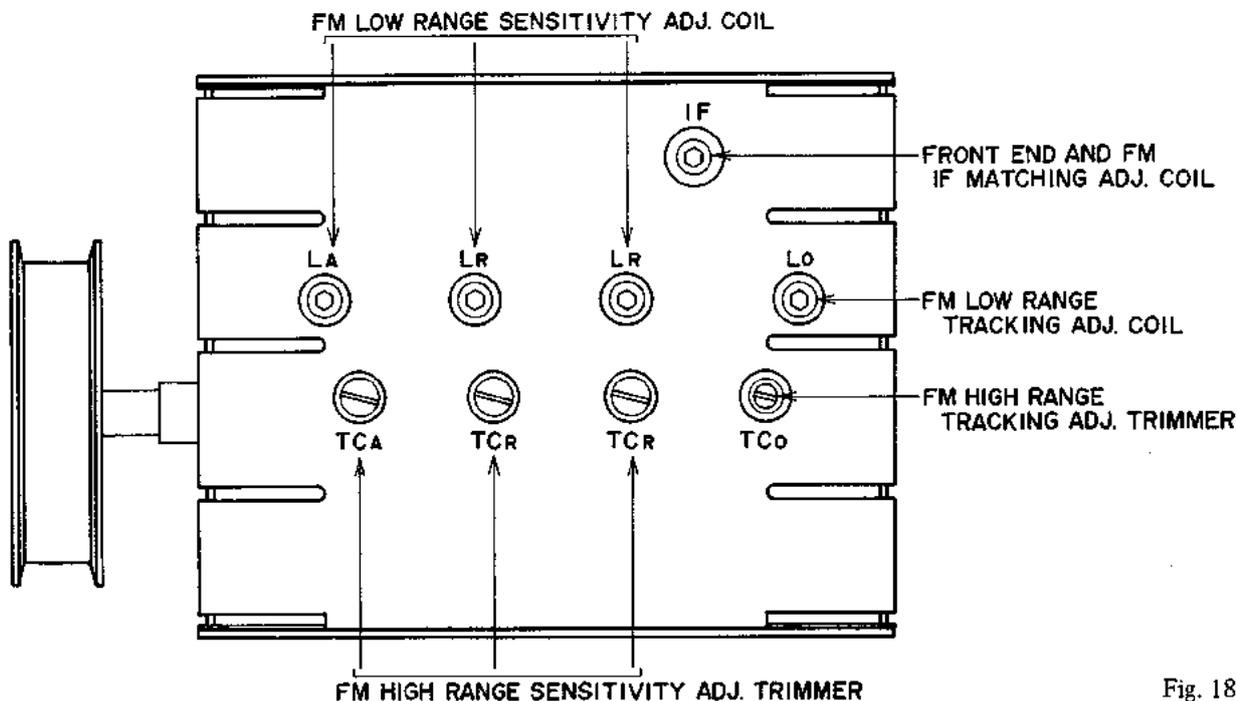

Fig. 18
- 11) Adjust the upper and lower cores of IF Coil in Front End (Figs. 18,21) and the lower core of FM-AM IF Amp. P.C. Board Discriminator Coil until the distortion meter level is maximum and the distortion factor is minimum. (Refer to Chart 5)